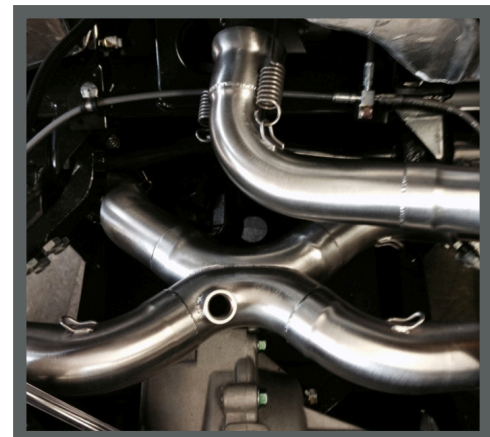

Figure 2
2. Loosen the rear head pipe nuts at the cylinder head enough so that the head pipe can be rotated slightly. Install the X collector and J bend using a long piece of electrical wire to install the 4 supplied long neck springs. (See figure 2)